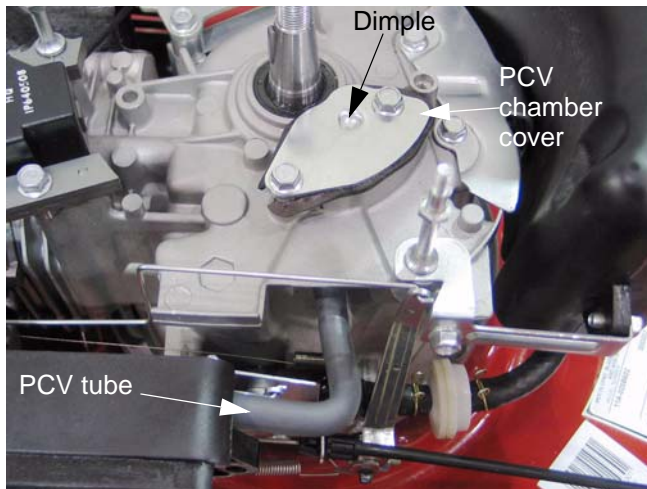

Figure 11.6
11.6. The PCV chamber is accessible by removing the flywheel, as described in steps 7.2 through 7.6 of the IGNITION SYSTEM section of this manual. See Figure 11.6.